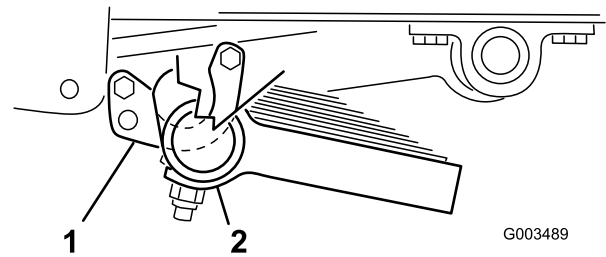

Figure 12
3. Secure the front of each saddle to the tube assembly with a bolt (5/16 x 1 inch) and a locknut (5/16 inch) (Figure 12).